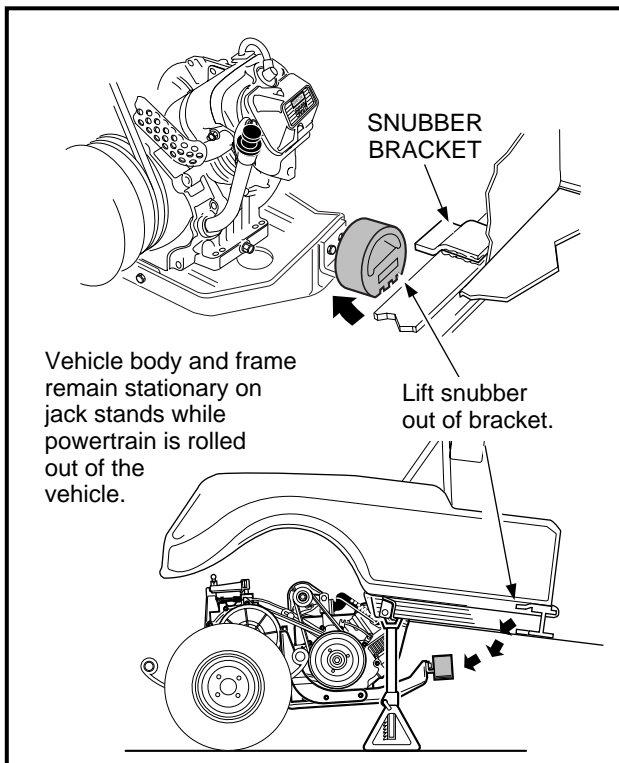

Figure 16-28 Snubber
12. Lift the snubber out of the snubber bracket in the vehicle frame and lower it to the floor (**Figure 16-28, Page 16-12**). The powertrain should be completely disconnected from the vehicle and resting on the floor.